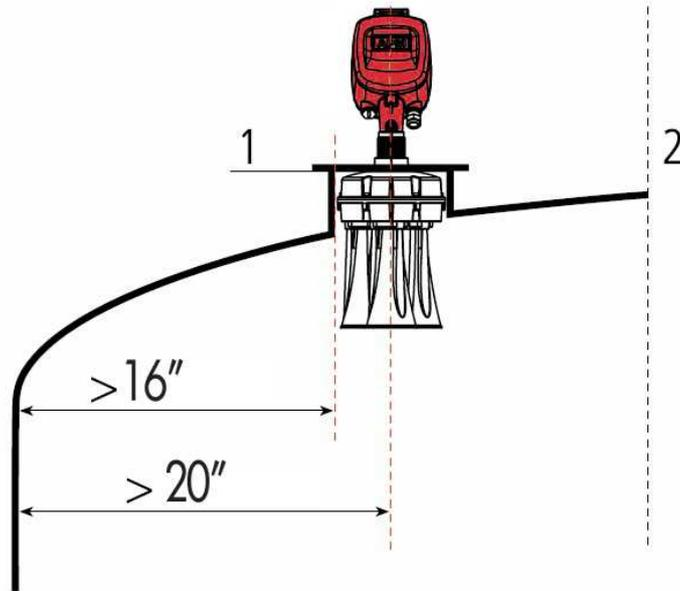

Figure 20 Closed Vessel Installation
- ① The installation point in the vessel must be at least 0.5m (1.64ft.) from the center of the scanner to the side of the vessel, as shown in Figure 20.